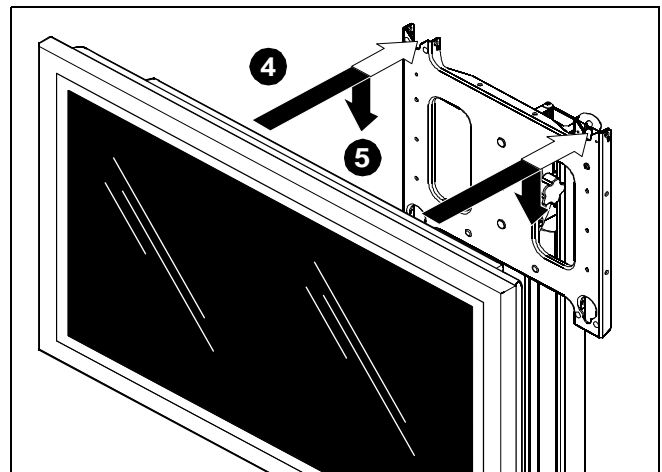
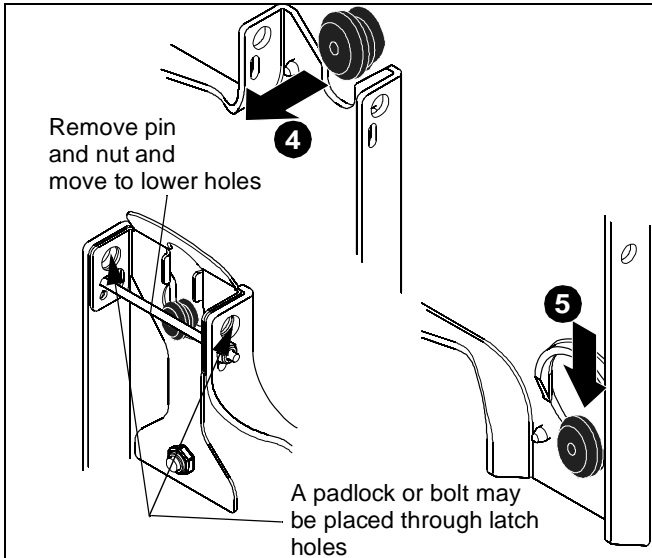

Figure 7
Figure 8
- While supporting both sides of display, align four mounting buttons on display or interface bracket with four mounting holes in head assembly. (See Figure 7) and (See Figure 8)
- Lower display into place listening for audible "click" to ensure recessed area of mounting buttons are properly seated in lower area of mounting holes. (See Figure 7) and (See Figure 8)
NOTE: Holes are provided in the faceplate for use with a padlock or similar locking device, if desired. In addition, the pin and nut may be removed from the upper holes and moved to the lower holes for use as a more permanent locking device. (See Figure 8)